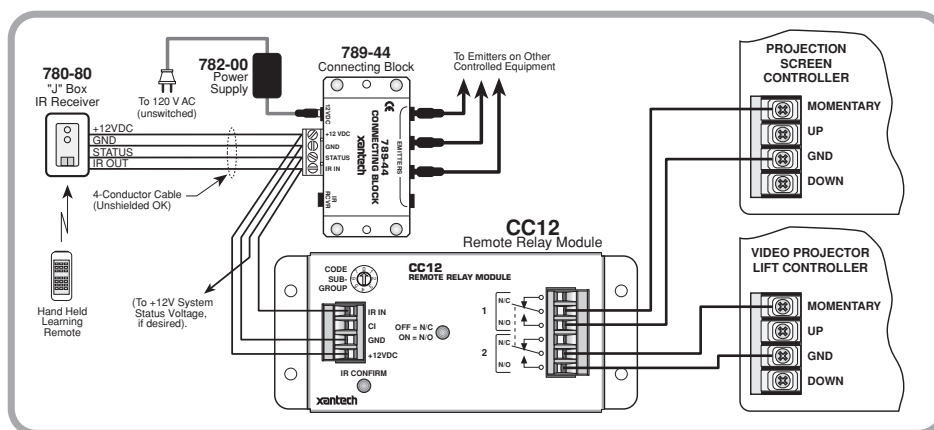

Fig. 4 Simultaneous Operation of a Screen and Projector Lift Using a CC12
- **Fig. 4** illustrates how both a screen and a projector lift can be operated at the same time.